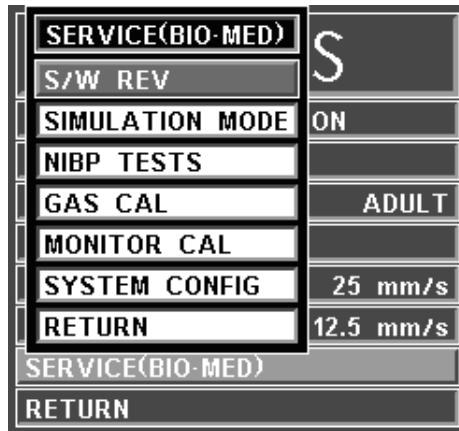

Figure 3-14. The WPU SERVICE (BIO-MED) Menu
- (7) **Service (Bio-Med).** Selecting this menu option will bring up the **WPU SERVICE (BIO-MED)** Menu (See Figure 3-14). The **WPU SERVICE (BIO-MED)** Menu provides the operator with the ability to identify the Software Revision level, place the system into a Simulation Mode (used for training purposes only), perform NIBP and SpO2 tests, calibrate the anesthetic agent option (if available), calibrate the monitor and adjust the configuration of the system.